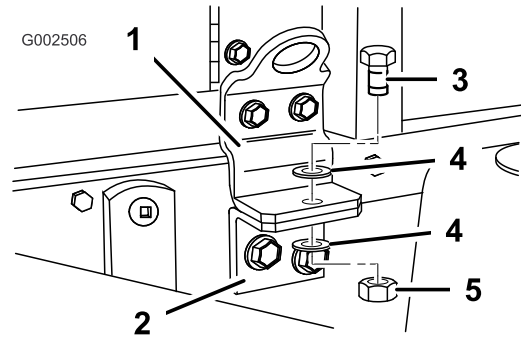

Figure 24
15. Secure the tank skid assembly to the frame with a bolt (1/2 x 1-1/2 inches), two washers (1/2 inch), and a locknut (1/2 inch) as shown in Figure 24.